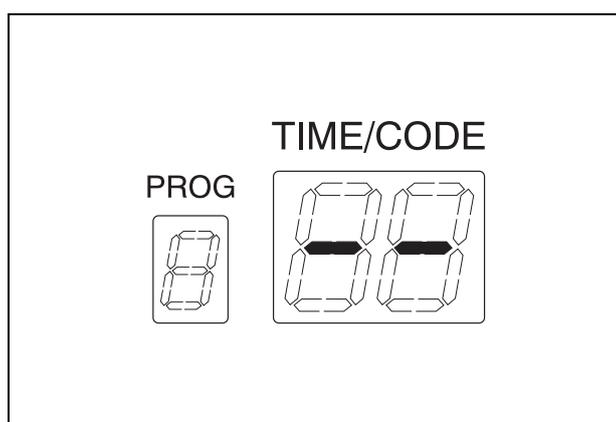

Figure 7.83
8. When the amount added is adequate, the buzzer beeps for three seconds. Stop adding the solution. At this time, the TIME/CODE display on the main panel will show [-] indicating the end of the process (see Figure 7.83).